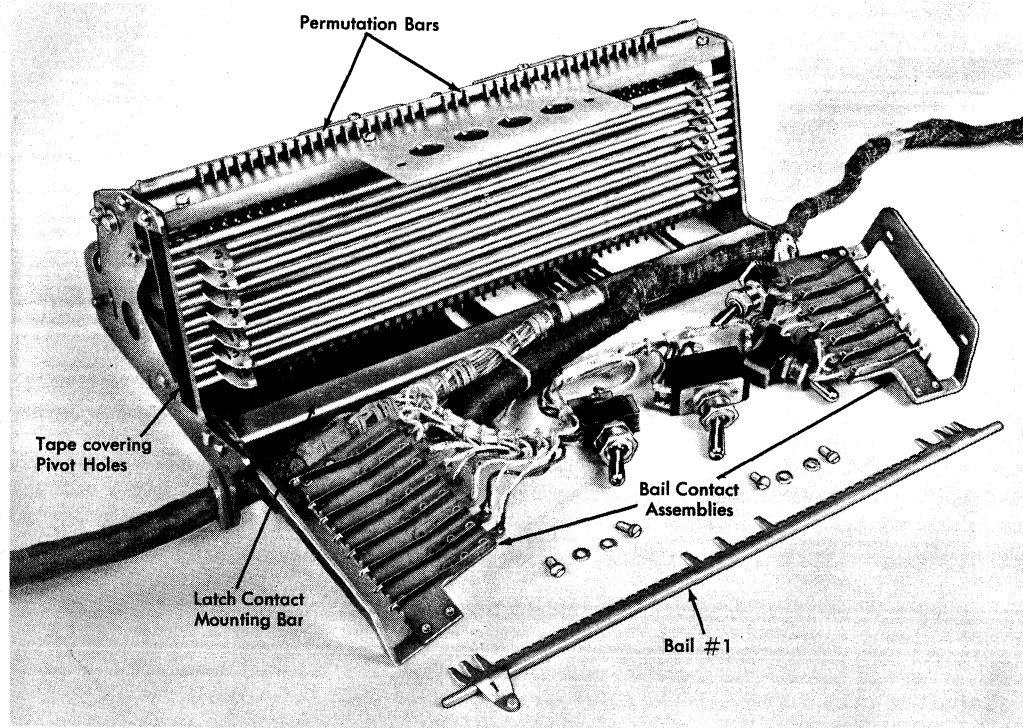

Figure 92. Keyboard Permutation Unit
Contact Bails. When a new bail (Figure 92) is installed, form all tabs on each bail for zero to .005-inch clearance to associated operation ears on permutation bar, with latch assemblies in restored position. This may be checked on a keyboard with its covers removed. Check tension required to just open a closed bail contact for each key operating that
2. Remove the two bail contact assemblies shown in Figure 92. Each assembly is held by two screws and may be shimmed away from side frame. Note the position of these shims.
5. Remove the two bail contact assemblies shown in Figure 92.
7. Remove contact bails; they are numbered 1 to 15, top to bottom (Figure 92).